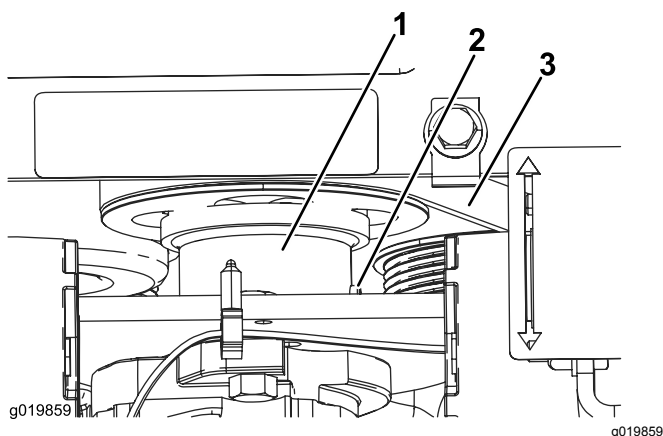

Figure 51
5. Loosen the set screw on the gear pump drive coupler (Figure 51).